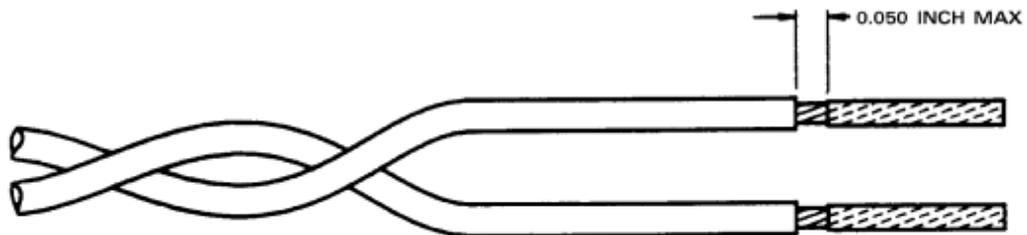

Figure 5-3. Pretinning Wires
4. Pretin the stranded wires to within 0.05 inch of the insulation, using Sn63 solder per ANSI-J-STD-006 (Figure 5-3).